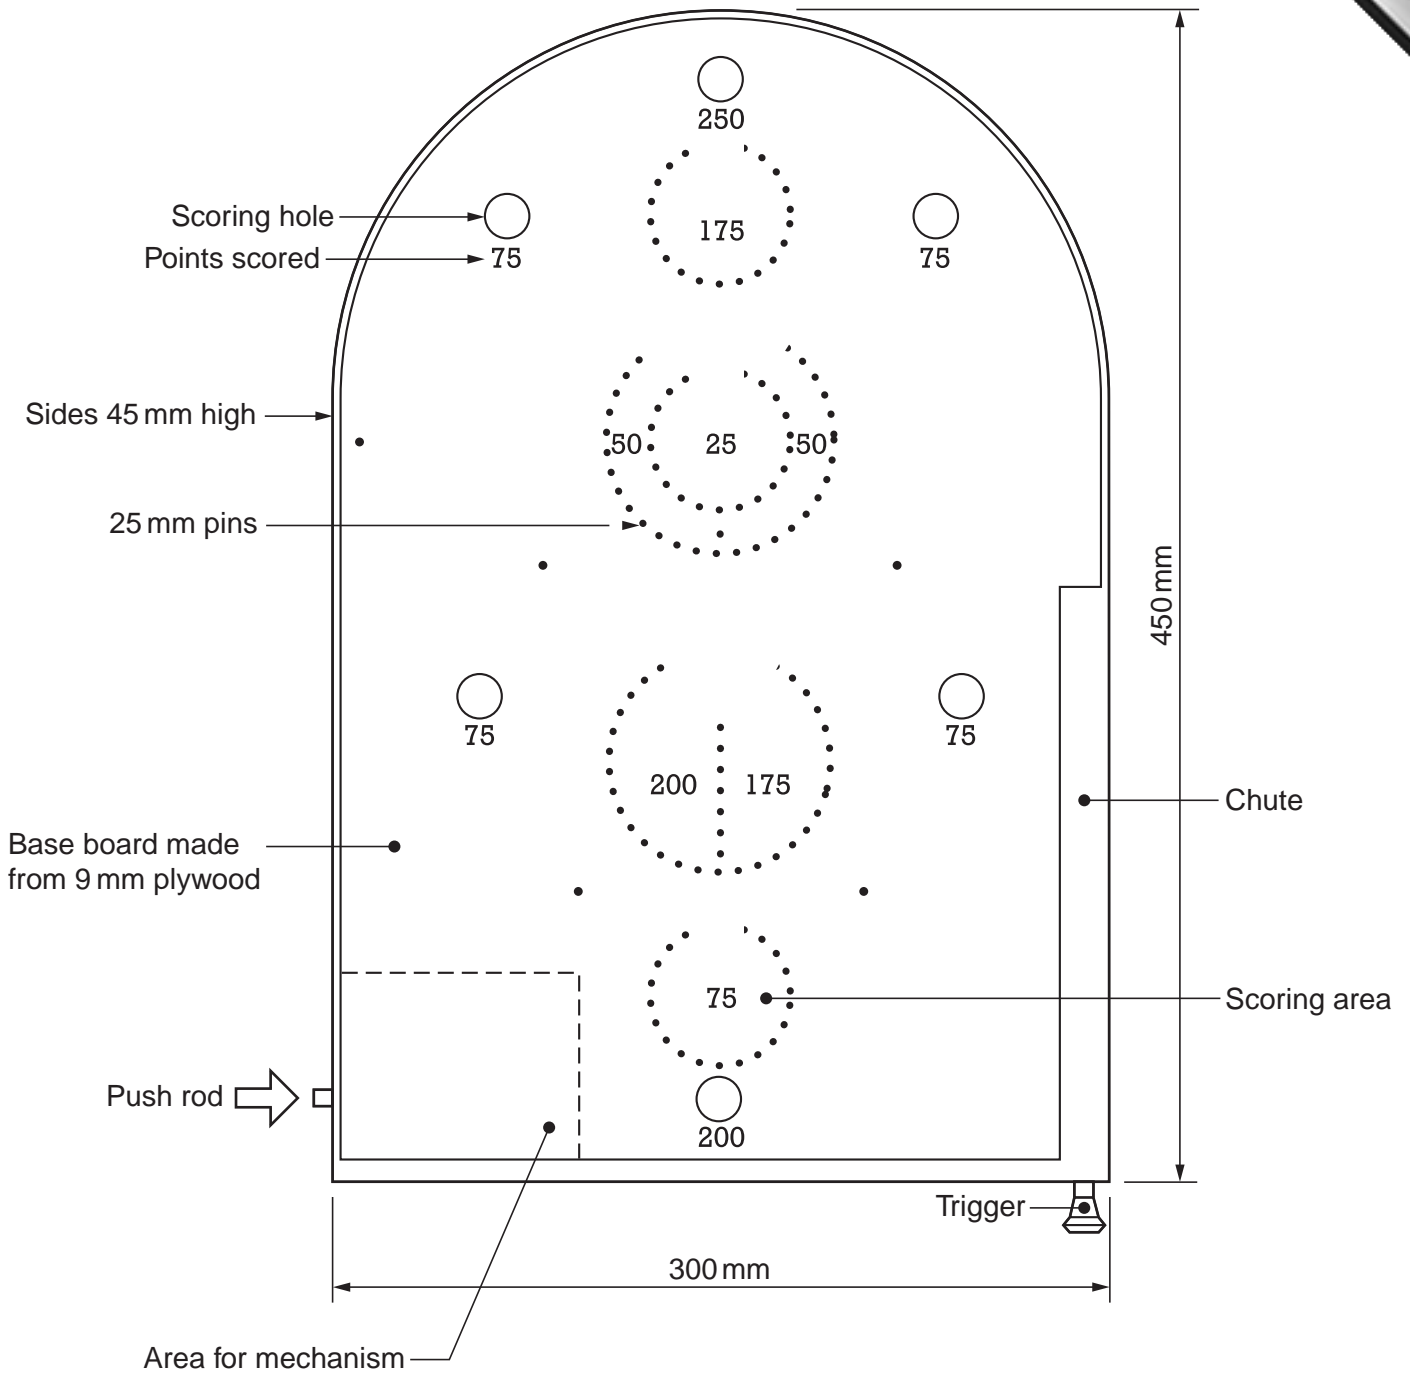

Fig. 10
- 9 Figs 10 and 11 show an incomplete idea for a table top game. 12 mm diameter balls are rolled up the chute on the right-hand side of the board. As each ball rolls down the board it passes through various scoring holes and areas that it can go in. Each player has six balls with which to score as many points as possible.